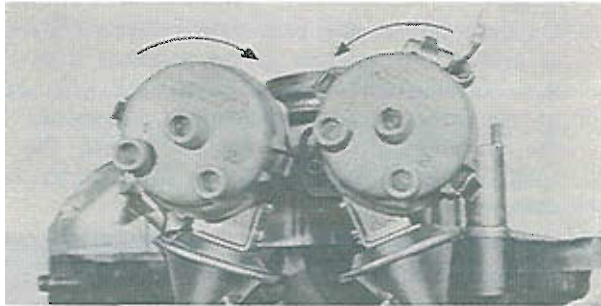

Fig. 1-106 Adjusting of ignition timing
6. Rotate each distributor slightly in the direction shown in Fig. 1-106 and the contact points start to separate. Then, tighten the lock nut for each distributor.